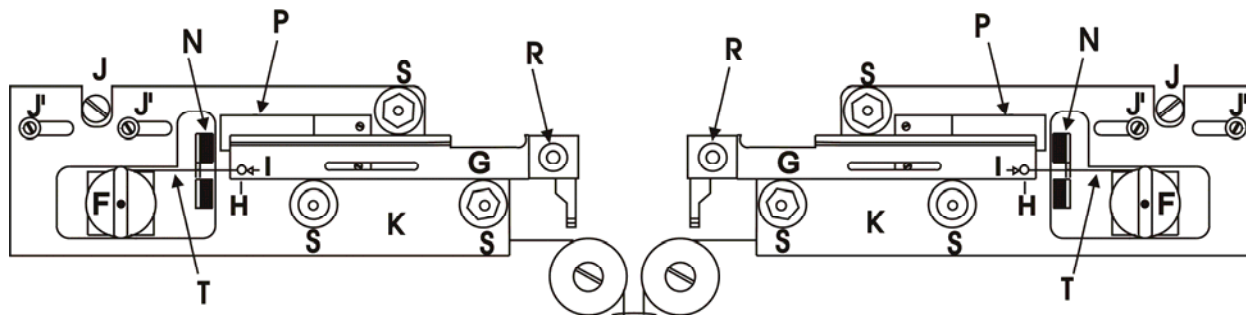

Figure 1-2. Upper Cable Pulley Assembly
This assembly conducts the PULLING CABLES (item **T** in **Figure 1-2**) from the PULLER BARS (**G**) to the centrally located (and concealed) LOWER CABLE PULLEY ASSEMBLY. Note that the UPPER CABLE PULLEY ASSEMBLY is attached to its panel by two screws, in slots (**J'**), and contains a large eccentric adjustment screw (**J**). This eccentric screw is used to adjust cable “tension”. Its use is covered in the maintenance section.
PANELS, LEFT & RIGHT (K in Figure 1-2) The panels are the angled surfaces that provide mountings for the PULLER BARS (G) and their BEARINGS (S); the SPRING STOPS (P); the BUMPERS (N); and the UPPER CABLE PULLEY ASSEMBLIES (F). Note the three socket-head cap screws that attach each PANEL to the top (J and J'). These screws are used to align the PULLERS BARS. Their use is covered in Chapter 5 (MAINTENANCE).
BUMPERS (N in Figure 1-2) The BUMPER stops the motion of its associated PULLER BAR (G), and prevents impact forces from breaking pipettes.
SPRING STOPS (P in Figure 1-2) The SPRING STOPS are one-way catches that prevent pipette tip collision by catching the PULLER BARS (G) as they rebound off the BUMPERS (N).
PULLER BARS (G in Figure 1-2) This assembly consists of the puller bar, glass clamp, clamping knob (R) and cable retaining screw (H). The puller bar is made of mild steel and coated with a controlled thickness of hard chrome. Glass is loaded into the groove near the tip of the puller bar and is held in position by tightening down the clamping knob (R). The cable retaining screw (H) holds the cable in a shallow groove (I) at the end of the puller bar, and forms the “resistance” against which the cable ends pull.
V-BEARINGS (S in Figure 1-2) These bearings are the guides for PULLER BAR motion. They are made of stainless steel and should NEVER be oiled (see maintenance section). These bearings are mounted on stainless steel bushings, one of which is round with the other two being hexagonal. The hexagonal bushings are used to adjust position and ease of travel of the PULLER BARS (see Chapter 5 (MAINTENANCE)). Note that the V-bearings MUST have a significant amount of play for the puller bars. Under no circumstances must the play be eliminated, as this may irreversibly damage the puller bars!
PULL CABLE (T in Figure 1-2) This cable conducts the pulling force of the solenoid to the PULLER BARS (G) via the UPPER (F) AND LOWER PULLEY ASSEMBLIES. It is made of flexible metal with a nylon coating. Never pinch or distort the cable. The cable is terminated with crimped-on clamps or “swages”. Note that the cable is mechanically connected to the puller bar by the cable retaining screw (H), not by the swage. Should the swage point out of the plane of the puller bar, this indicates that the retaining screw may have become loose, and the puller cable tension needs to be checked (see Chapter 5 MAINTENANCE).